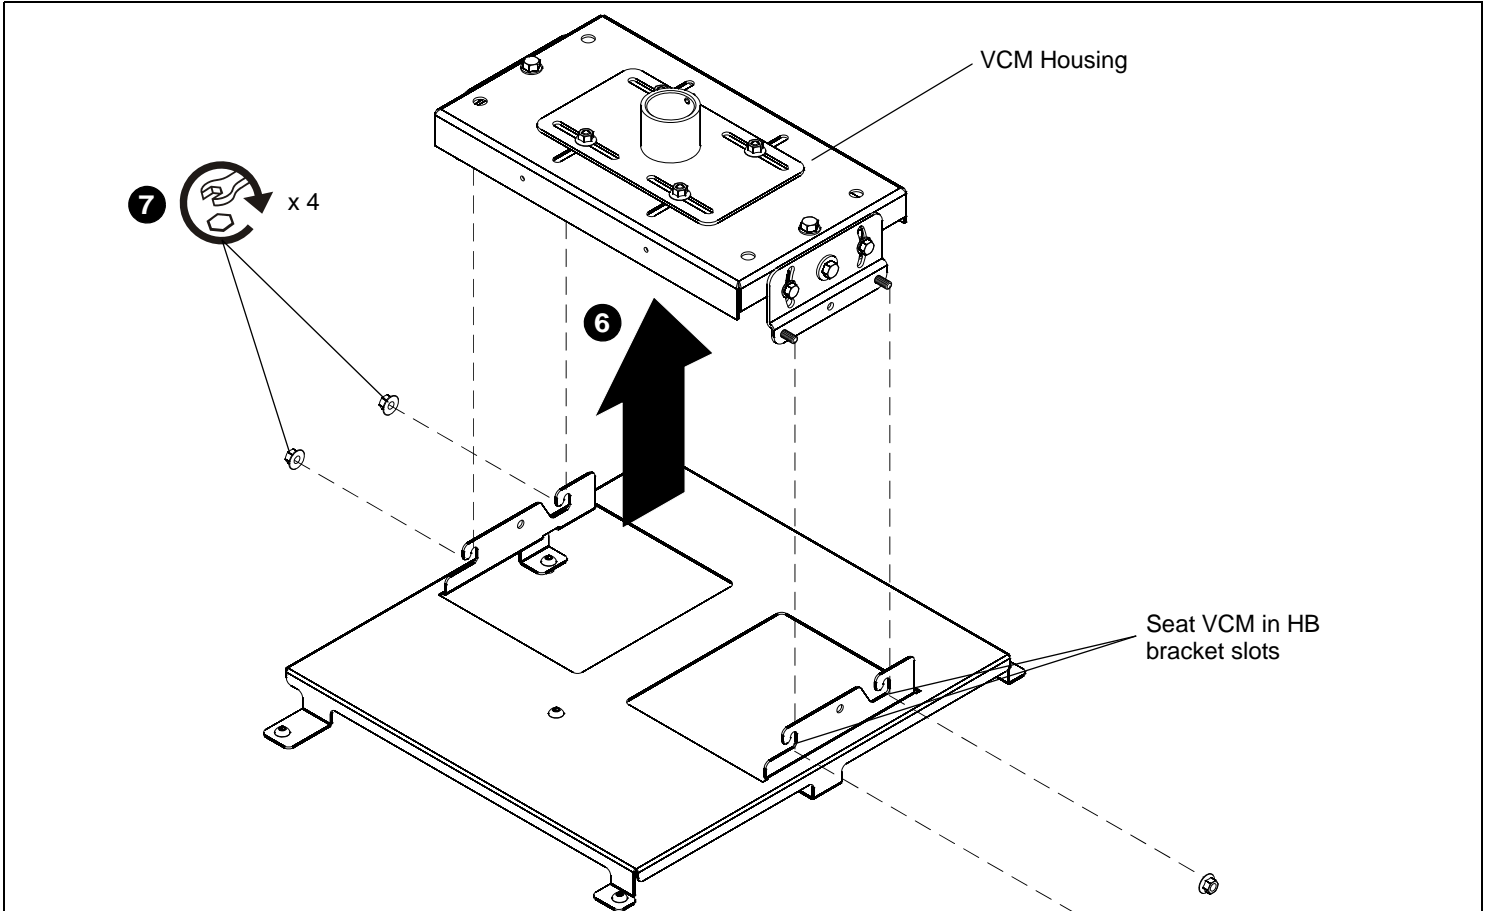

Figure 2:
6. With help of assistants, lift the projector and install it to the four studs extending from the VCM housing. Ensure that the VCM housing is seated in slots on HB bracket. (See Figure 2)
7. Tighten the four 5/16" flange nuts. (See Figure 2)